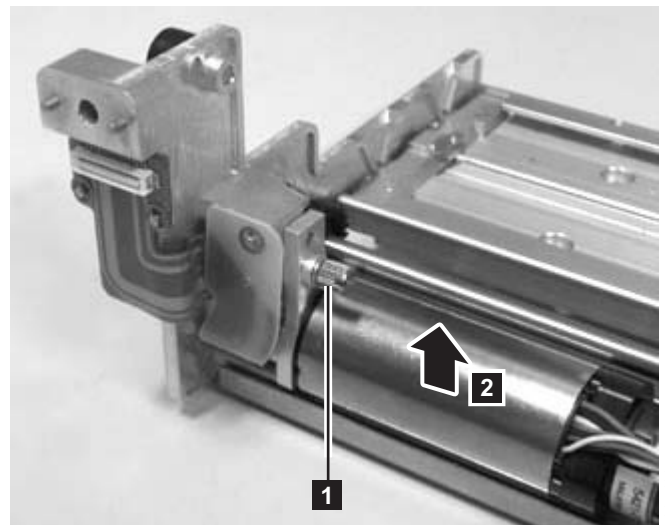

Figure 8-55. Y motor thumb screw
9. Loosen the thumb screw (**1** in Figure 8-55).
10. Tilt the Y Motor to the left and remove from the Y-axis/Picker Assembly (**2** in Figure 8-55).